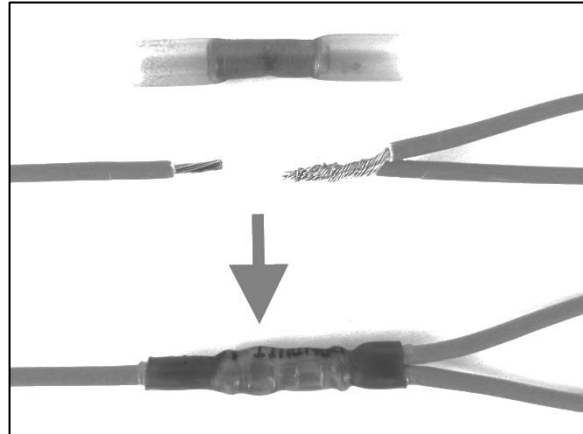

Figure 36
56. Connect wire 35 of the existing L17 light with the wire 35 of the new L15 light. Splice the wires as shown in the Figure 36.
57. Connect wire 86ARtn of the existing L17 light with the wire 86ARtn of the new L15 light. Splice the wires as shown in the Figure 36.